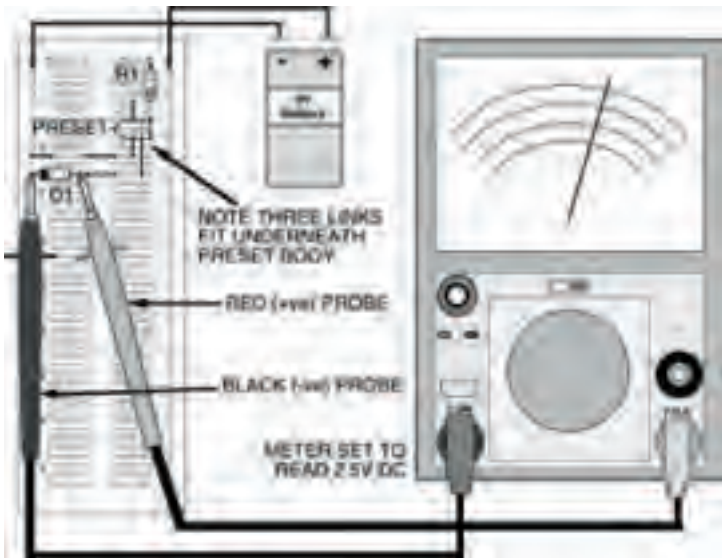

Figure 6.9 The breadboard layout for the circuit in Figure 6.7
1) set up the components on the breadboard to measure only the voltage across the diode. The breadboard layout is given in Figure 6.9. Before you connect your battery to the circuit, make sure the wiper of the preset is turned fully anti-clockwise,